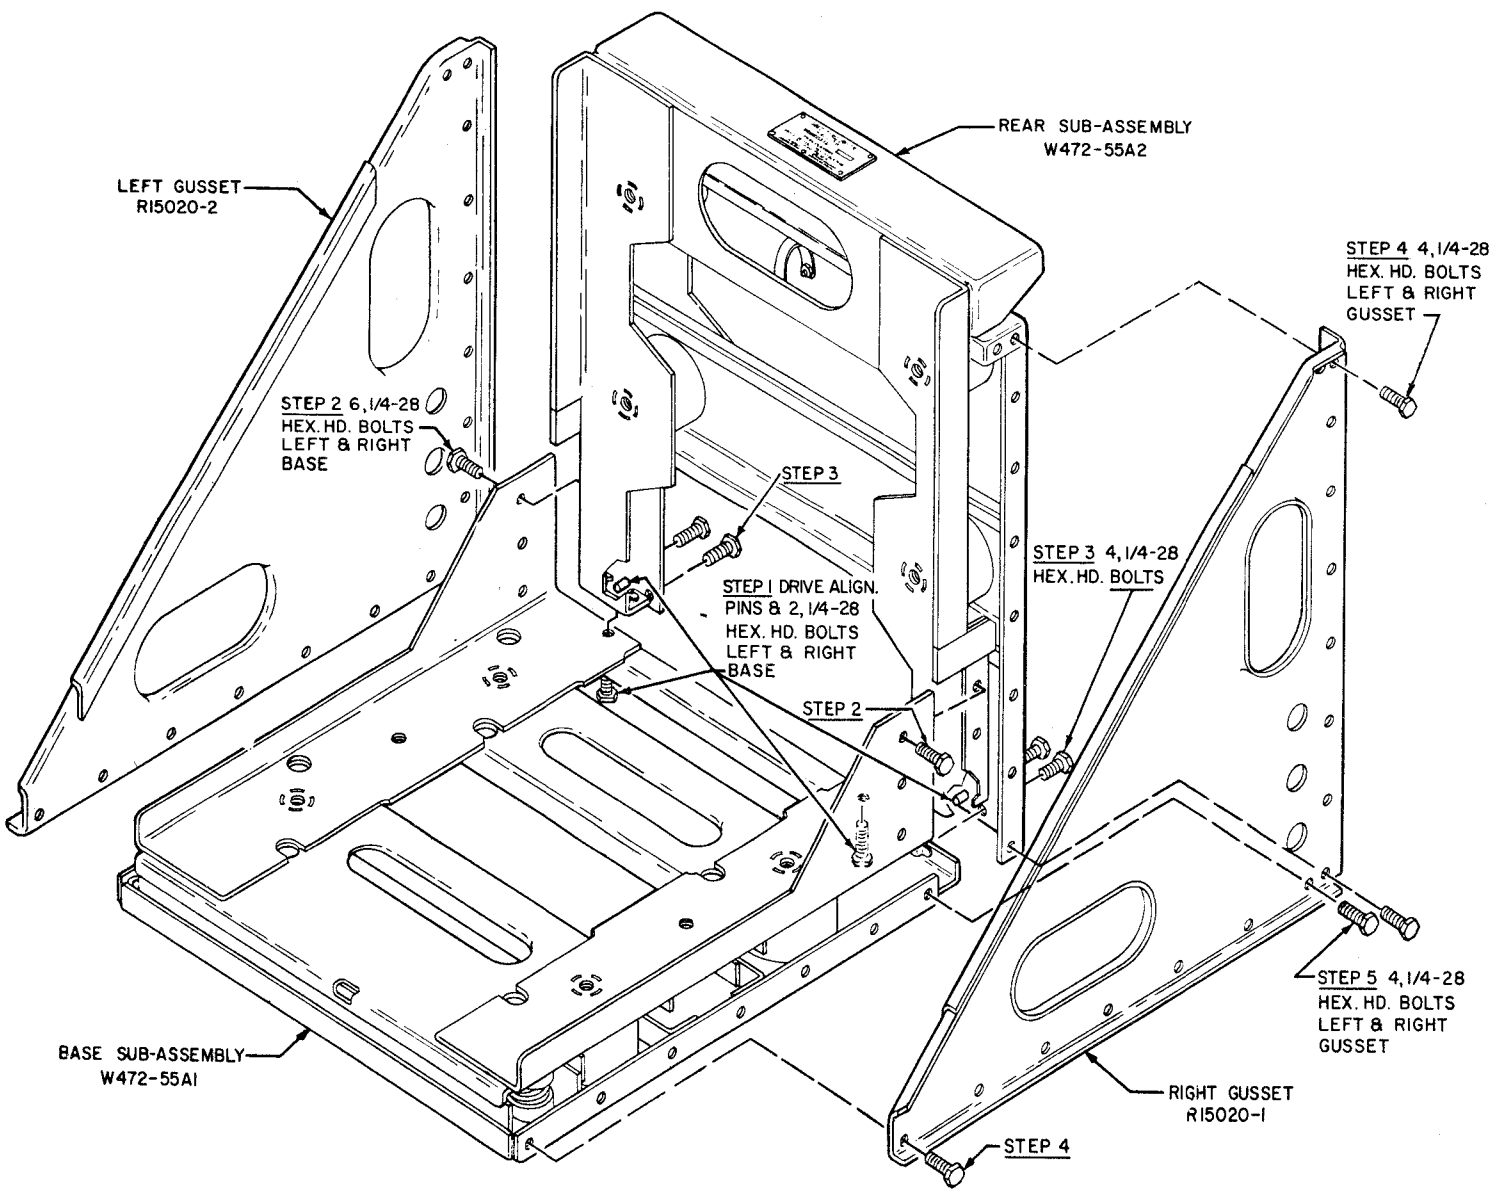

Figure 2-7. Mounting MT-2293/WRR-2, Assembly Details
b. MOUNTING CRADLE (FOR AN/WRR-2 ONLY). (See figure 2-7.) — Mounting MT-2293/WRR-2 consists of a base, a back, and two side gussets for support. It is shipped disassembled in its own carton. Assembly and mounting procedures are as follows:
(1) TABLE LAYOUT.—The base of the mounting cradle has eight holes for attaching the assembly to the supporting table with eight $\frac{3}{8}$ -inch bolts. Before beginning to assemble the mounting cradle, use the base as a
(a) Stand the rear subassembly at the rear of the base, as shown in figure 2-7. Located on the bottom of the rear subassembly are two alignment pins; push them through into the base subassembly. Insert two bolts upward through the tray of the base into their inserts and tighten slightly.